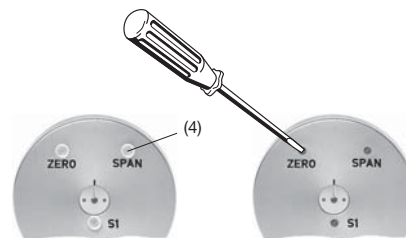

Fig. 9 Adjustments «ZERO», «SPAN» and «S1».
Remove the ZERO/SPAN sealing plug (4) (Fig. 9, left). Place the measured device at its zero position, i.e. the position at which the KINAX 3W2 should produce 0 mA (3- or 4-wire connection) resp. 4 mA (2-wire connection) at its output.
Then adjust the “ZERO” potentiometer (Fig. 9, right) using a watchmaker’s screwdriver (2.3 mm diam.) so that the desired output current flows.
A switch is provided on angular transmitters with a measuring range > 150 \angle ° for reversing the direction of rotation. It is marked S1 and can be operated through the opening in the rear part of the transmitter (Fig. 9).